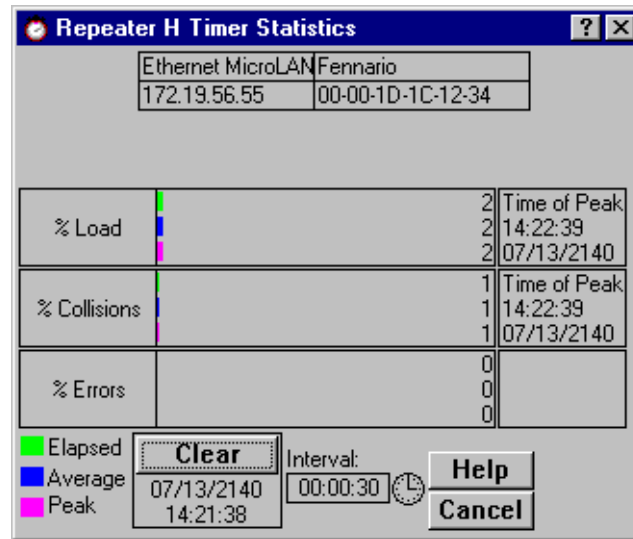

Figure 5-2. The Repeater Timer Statistics Window
3. Select **Timer Statistics**. The Repeater Timer Statistics window, Figure 5-2, will appear.
The Board and Port Timer Statistics windows are similar to the Repeater Timer Statistics window displayed in Figure 5-2, except that they display statistics applicable to the board or the port.